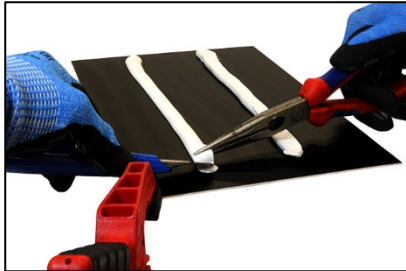

Figure 12 After complete curing, separate the first 2 – 3 cm of the bead
- Then use a sharp razor knife to separate the first 2 – 3 cm of the leading edge of the bead from the substrate (see Figure 12).